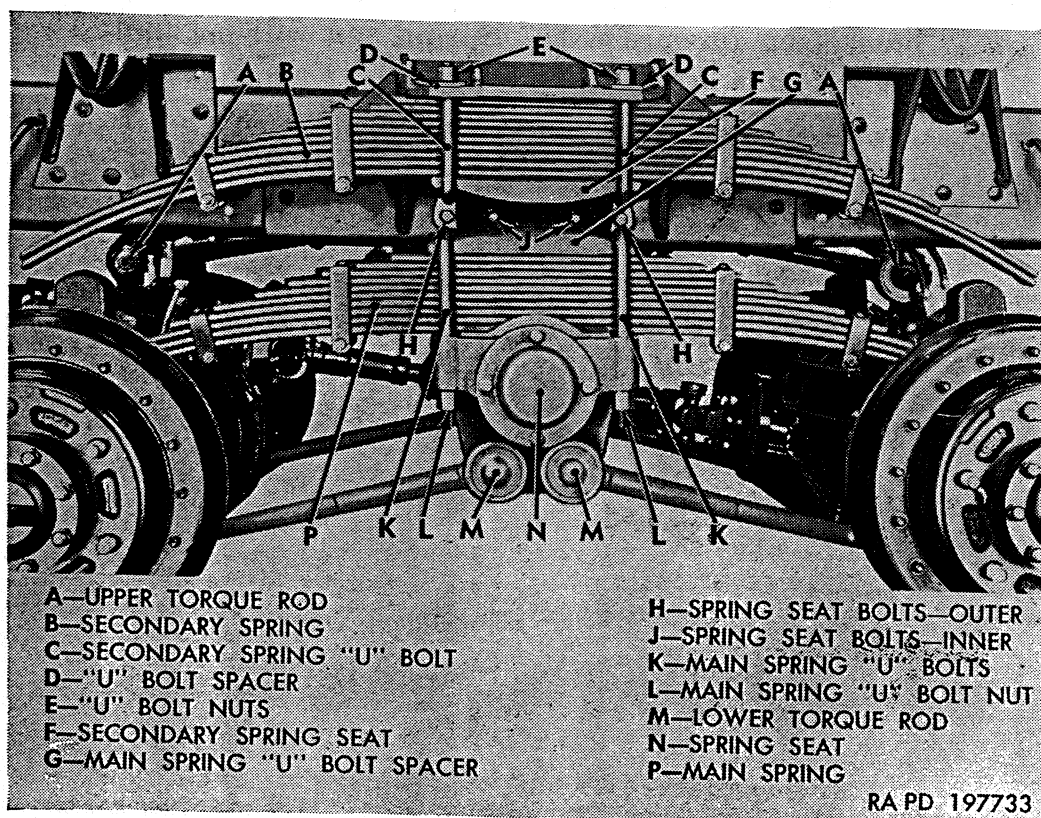
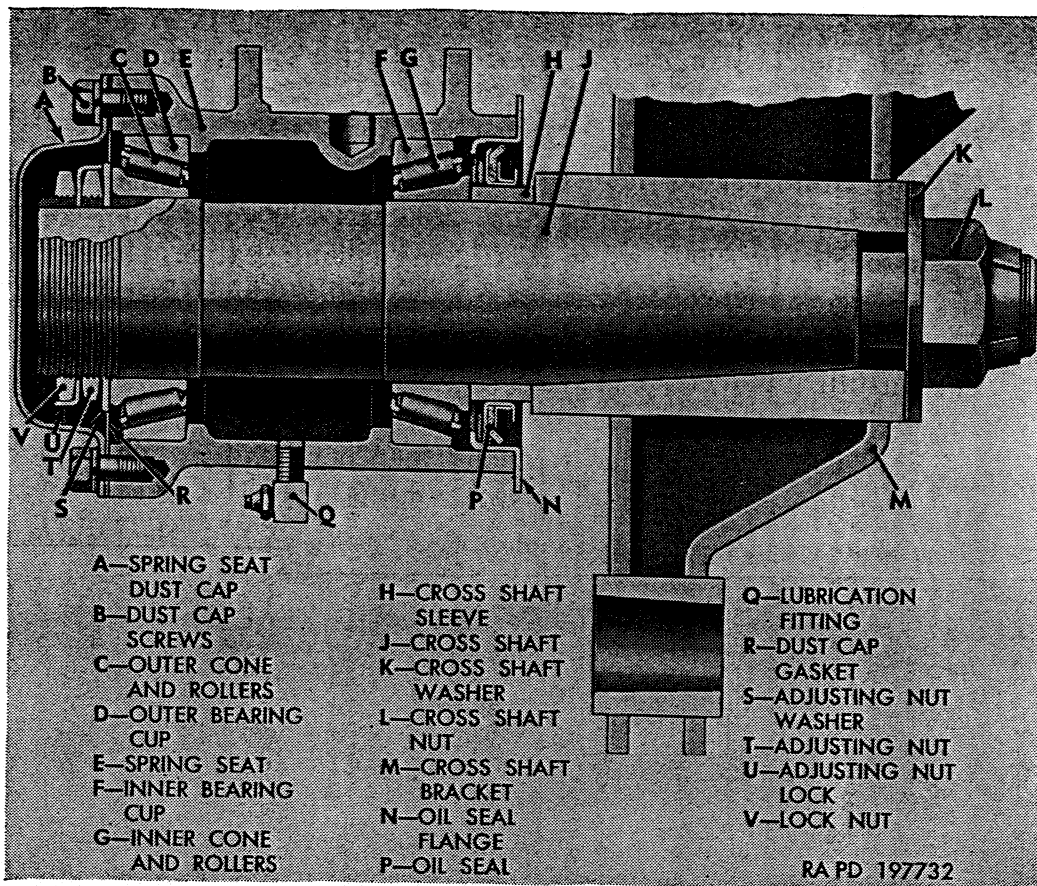

Figure 289. Rear springs and torque rods installed.
Figure 298. Rear spring seat—sectional view.
- (1) *General.* Rear spring suspension system components comprise the main spring assembly, main spring seat and bearings, secondary spring assembly, torque rod assemblies (fig. 289), and attaching parts.
- (2) *Main and secondary springs.* Main and secondary spring assemblies are identical. Each spring assembly consists of 10 spring leaves, secured together by a center bolt and four rebound clips. Main spring is mounted on spring seat which, in turn, is mounted on a shaft on opposed tapered roller bearings. Secondary spring is mounted rigidly to bracket on frame side rail. Slipper ends of main spring are inserted in brackets which are integral with axle housings; secondary spring ends contact top of brackets on axle housing under heavy load conditions.
- (3) *Main spring seat.* Main spring seat is mounted on tapered roller bearings on spring seat shaft. Tapered spring seat cross shaft is installed in spring seat and torque rod cross shaft bracket (M, fig. 298) and secured with a plain washer and safety nut. Outer end of shaft is threaded for bearing adjusting nuts, and grooved for tongue on adjusting nut lock. Spring seat inner oil seal, installed on spring seat shaft sleeve, wipes on inside of seal flange which is pressed into inner end of seat.
- (4) *Torque rods.* Six torque rod assemblies, two upper and four lower, transmit driving and braking forces of the two rear axles to the frame. Both ends of all rear torque rods are equipped with tapered end pins. Brake and vent line shield is welded to top of each upper torque rod.
- (1) Apply parking brake or block wheels to prevent accidental movement of vehicle while spring is being removed and installed.
- (2) On side being serviced, place jack under frame bracket assembly; then jack up bracket until tension is relieved from main spring. Remove main spring U-bolt nuts (L, fig. 289).
- (1) Loosen secondary spring U-bolt nuts (E, fig. 289).
- (2) Remove four nuts and bolts (H and J, fig. 289) attaching secondary spring seat to frame bracket.
- (3) Support spring by blocking between ends of spring and spring guide brackets on axle housings.
- (4) Remove U-bolt nuts, spacers, and U-bolts.
- (4) With spring center bolt located in drilled locating hole in frame bracket, hold top of spring against bracket by blocking between spring ends and spring guide brackets on axle housing.
- (5) Move spring seat forward under spring until locating projections on spring leaf mate with locating cavities in spring seat.
- (6) Install U-bolts with two spacers and four nuts. Do not tighten U-bolt nuts at this time.
- (7) Align spring seat bolt holes with bolt holes in frame bracket. Install two  $\frac{7}{16}$ -20 x  $2\frac{1}{4}$  inner spring seat bolts (J, fig. 289) in inner bolt holes, and two  $\frac{7}{16}$ -20 x 2 outer spring seat bolts (H, fig. 289) in two outside bolt holes. Install four  $\frac{7}{16}$ -20 safety nuts and tighten to 33 to 43 pound-feet torque.
- (8) Tighten U-bolt nuts to 375 to 400 pound-feet torque. Remove blocks from between ends of spring and spring guide brackets.
(fig. 298)